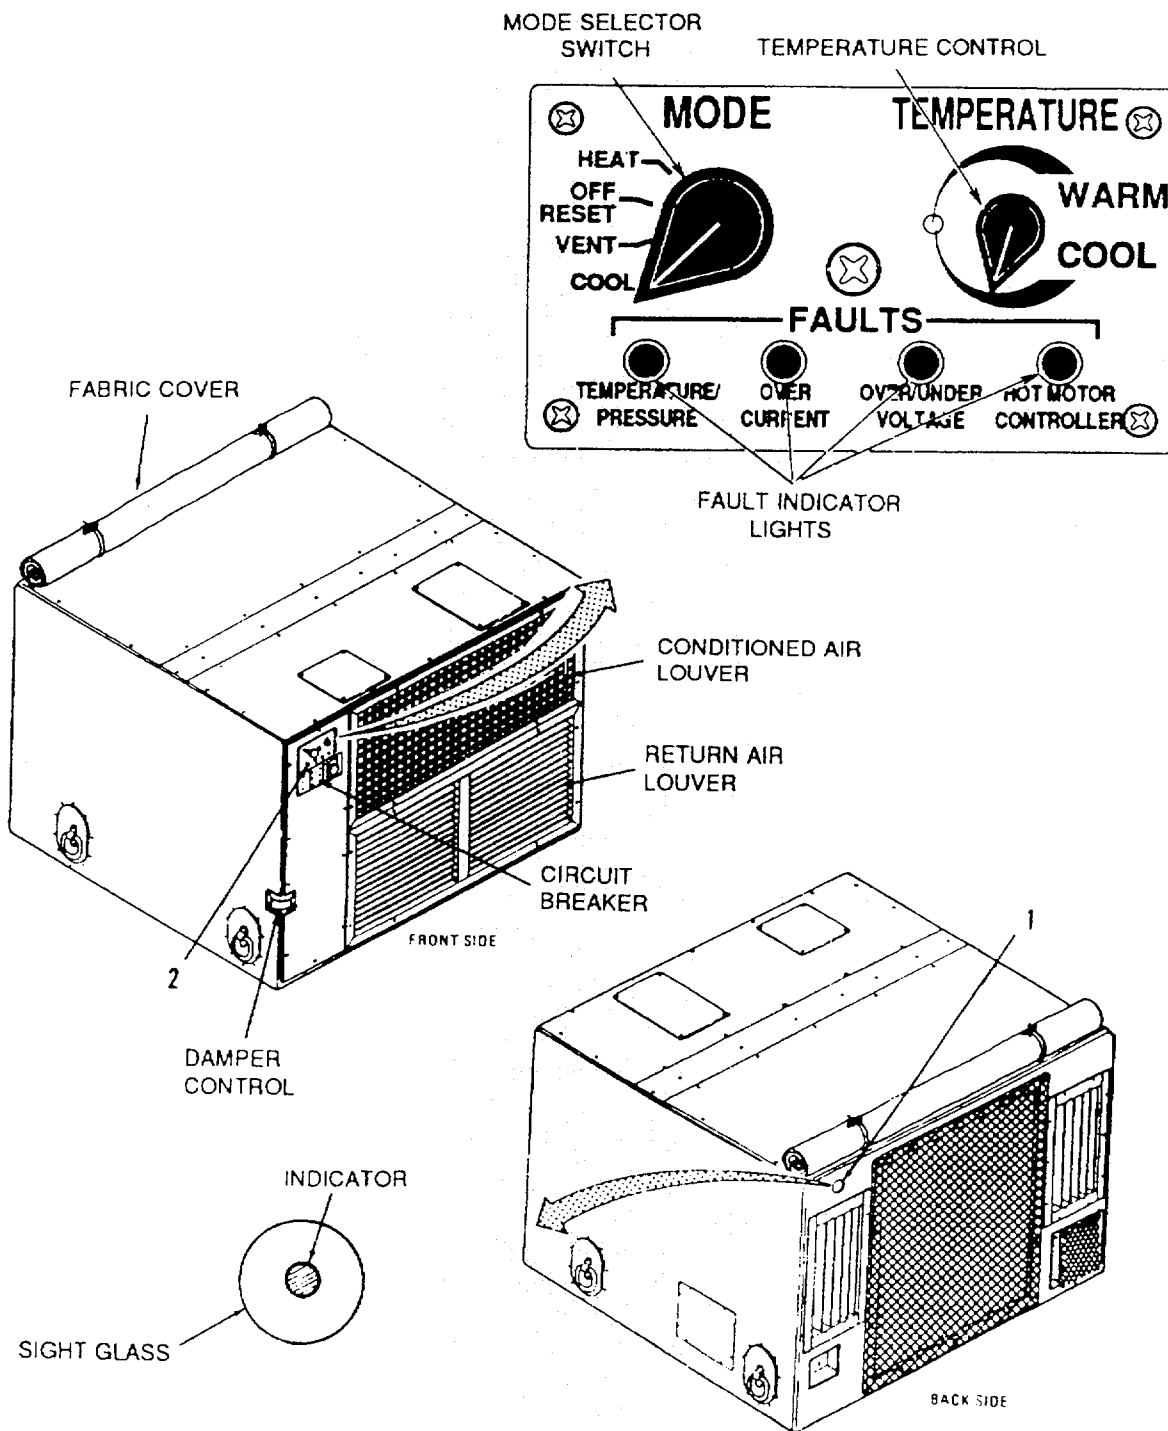

Figure 2-1. Operator's Controls and Indicators.
**2-2. OPERATOR'S CONTROLS.** See Figure 2-1 for a general description of the controls that an operator will normally be concerned with. For specific operating instructions, see Sections III and IV of this chapter.
**(1) Refrigerant Sight Glass.** The refrigerant sight glass is a port or window through which the refrigerant condition can be seen. Liquid refrigerant actually flows through the sight glass chamber only during cooling cycles when the air conditioner is in operation in the COOL mode. The unit must be operated approximately 15 minutes at maximum cooling prior to checking condition of refrigerant at sight glass. The sight glass is equipped with a center indicator that is moisture sensitive. Dry refrigerant is indicated by green, it turns to chartreuse when the moisture content becomes undesirable, and to yellow when the level becomes unacceptable. Excessive moisture in the refrigerant may damage or possibly destroy the compressor. If the liquid refrigerant observed in the sight glass has an opaque, milky appearance, or frequent bubbles appear, the volume of refrigerant may be low and the system should be charged. Either moisture or low charge indications should be reported to your supervisor.
**(2) Fault Indicator Lights.** Fault indicator lights are located on the control panel assembly to indicate the following conditions.
a. The TEMPERATURE/PRESSURE fault indicator light (Figure 2-1) comes on if the high pressure cut out, low pressure cut out, coil frost switch, or heater cut out switch opens. The switches are associated with the units cooling and heating operation and can be an indication of obstructed air flow across the evaporator or condenser coil or improper refrigerant charge.
b. The OVER CURRENT fault indicator light (Figure 2-1) comes on if the motor controller is operating with an amp draw that is too high. This can be an indication of a component failure or wiring problem.
c. The OVER/UNDER VOLTAGE Fault indicator light (Figure 2-1) comes on if the motor controller is operating outside its voltage range. This could indicate controller failure or a problem with input power.
- d. The HOT MOTOR CONTROLLER fault indicator light (Figure 2-1) comes on if the motor controller overheats.
e. The refrigerant sight glass (Figure 2-1) has a small chamber with a glass window through which the refrigerant condition can be observed. It is installed in the liquid refrigerant line downstream from the condenser coil. Liquid refrigerant actually flows through the sight glass chamber only during cooling cycles when the air conditioner is in operation in the COOL mode. The unit must be operated approximately 15 minutes at a maximum cooling prior to checking the condition of the refrigerant in the sight glass. The sight glass is equipped with a center indicator that is moisture sensitive. Dry refrigerant is indicated by green, it turns to chartreuse when the moisture content becomes undesirable, and to yellow when the moisture level becomes unacceptable. Excessive moisture in the refrigerant may damage or possibly destroy the compressor. If the liquid refrigerant observed in the sight glass has a milky appearance, or frequent bubbles appear, the volume of refrigerant is low and the system should be charged. Either moisture or low charge indications should be reported to direct support maintenance for appropriate refrigerant system action.
**2-6. GENERAL OPERATING PROCEDURES.** The following general operation procedures and explanations should be used and understood to be sure that the air conditioner unit will operate in the best possible manner. Refer to Figure 2-1 for location of operator's controls and indicators. The Air Conditioner should be checked for operation in all modes after installation is completed and when it is placed back in operation after an extended shut down period.
- (1) Check that fabric cover has been unsnapped and rolled up, and secured with both straps.
- (2) Check that mode selector switch on control panel is in the OFF/RESET position.
- (3) Check that air conditioner has been properly connected to a 208 volt AC, 50/60/400 HZ power source.
- (4) Check that circuit breaker is in the ON position.